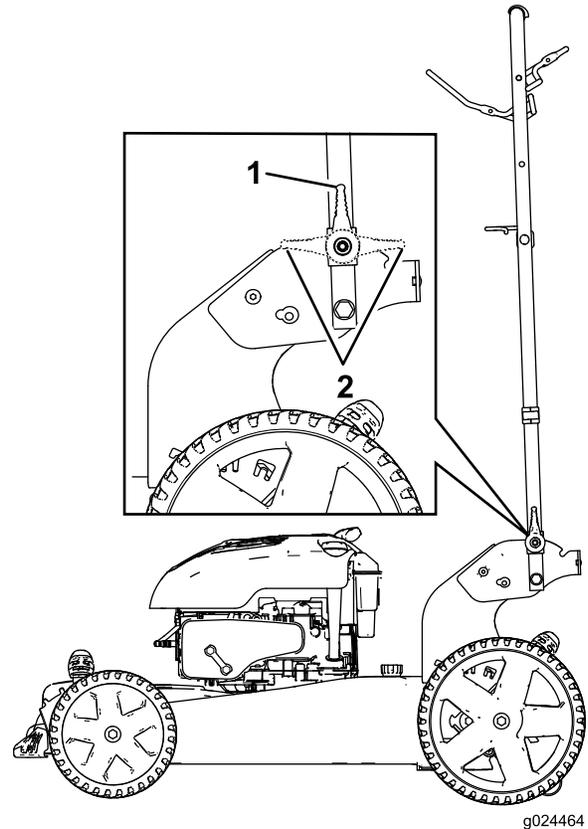

Figure 30
2. Fold the handle forward either to the vertical position or the fully forward position as shown in Figure 30.